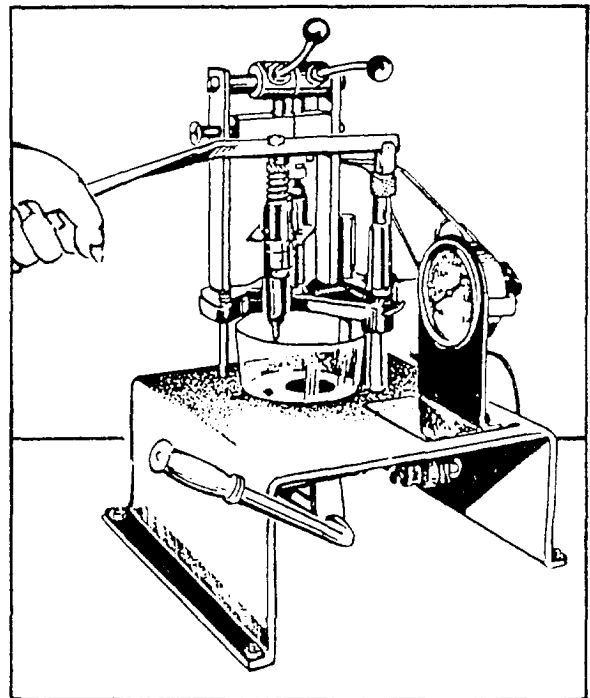

Figure 5-31.-Spray pattern test.
**SPRAY PATTERN TEST.**— This test is performed after you have completed the valve holding pressure test. After placing the injector in the tester, open the fuel shutoff valve; then place the injector rack in the **FULL-FUEL** position. Operate the injector several times in succession by pumping the tester handle (fig. 5-31) at approximately 40 strokes per minute. Observe the spray pattern to see whether all of the spray tip orifices are open and injecting evenly. The beginning and ending of injection should be sharp, and the fuel injected should be finely atomized. If all the spray tip orifices are not open and injecting evenly, clean the orifices in the spray tip during injector overhaul.